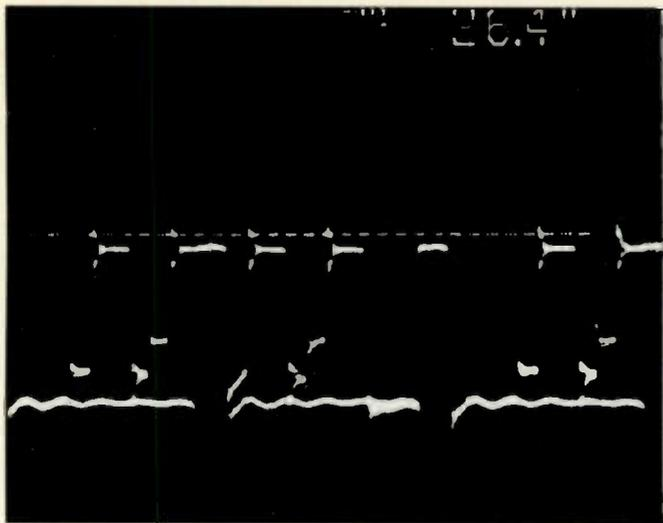
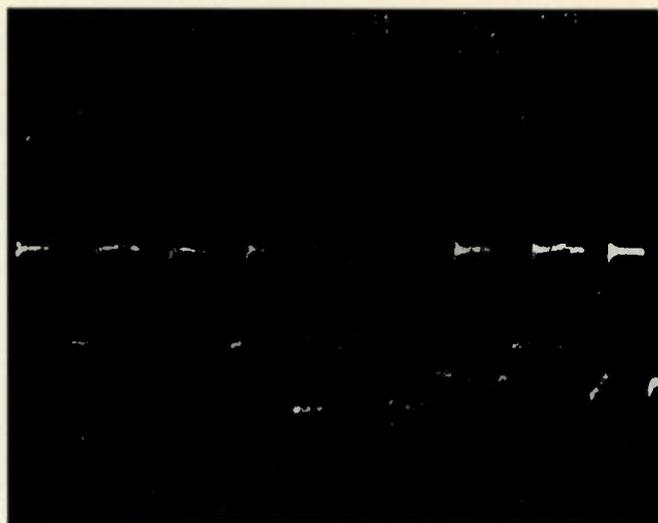

Figure 4. (Upper Left) Waveform seen at the emitters of Q103, Q203 and Q303
Figure 5. (Upper right) Waveform seen at the collector of Q102, Q202 and Q302
**Figure 4.** This filtering circuit, commonly known as an integrator, consists of an op amp, an input signal resistor and a capacitor (rather than a resistor) in the feedback path.
Figure 4 depicts a filtering circuit commonly known as an *integrator*, consisting of an op amp, an input signal resistor and a capacitor (rather than a resistor) in the feedback path. This configuration allows the circuit to be used as a low-pass filter as the capacitive reactance ( $X_c$ ) of  $C1$  will increase or decrease as the feedback signal varies in frequency.
The waveform of Figure 4 should be observed at the emitters of Q103, Q203 and Q303. Any problems with this waveform may indicate defects within transistors Q101, Q102, Q201, Q202, Q301 and Q302. If the waveforms seem okay, suspect the video amplifier IC. At the collectors of Q102, Q202 and Q302, you should find waveforms such as the one shown in Figure 5. In addition, check the